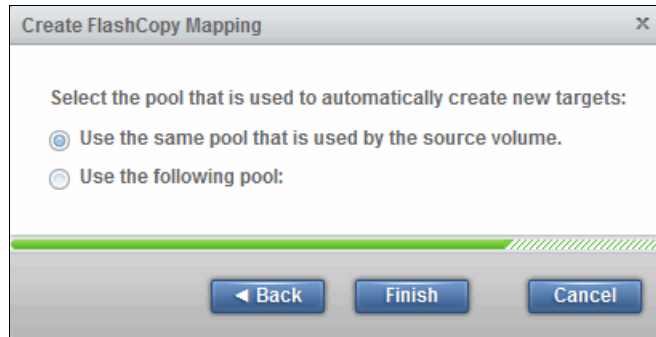

Figure 10-22 Selecting Storage Pool for target volume
- Click **Next** to continue. You can choose from which Storage Pool you want to create your target volume, as shown in Figure 10-22. You can select the same Storage Pool used by the source volume, or select a different pool.